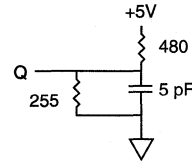

Fig. 2 OUTPUT LOAD EQUIVALENT
- Output loading is specified with C_L = 5pF as in Fig. 2. Transition is measured ±500mV from steady state voltage.